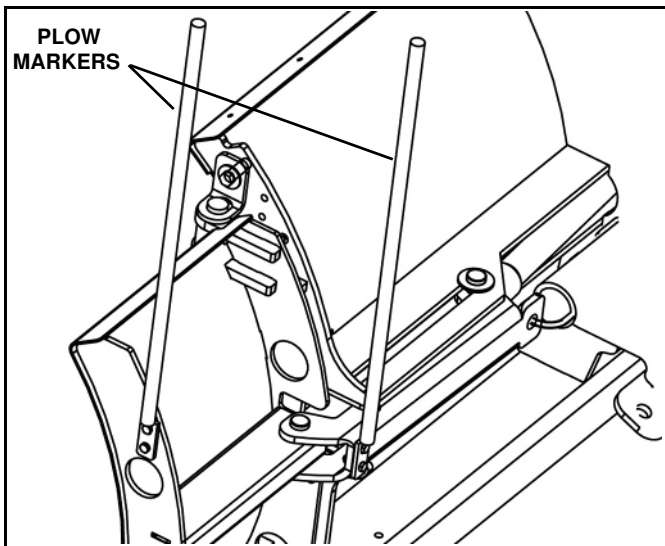

Figure 1-10
7. Attach a plow marker to each wing and wing link as shown and secure using 5/16 x 1" cap screws and locknuts. (See Figure 1-10)